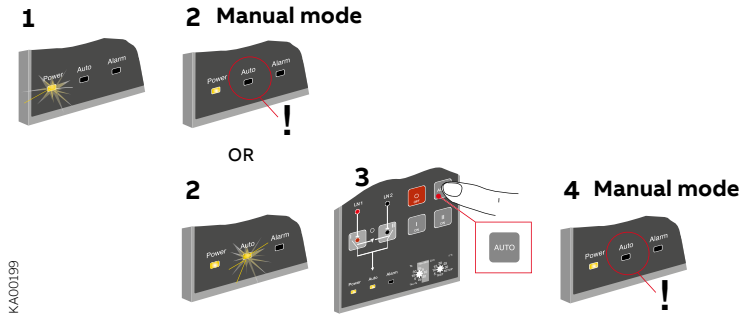

Figure 4.8 Selecting the automatic control units OMD100, OMD200 and OMD300 to Manual Mode
1. Set device to MANUAL mode according the Figure 4.8.